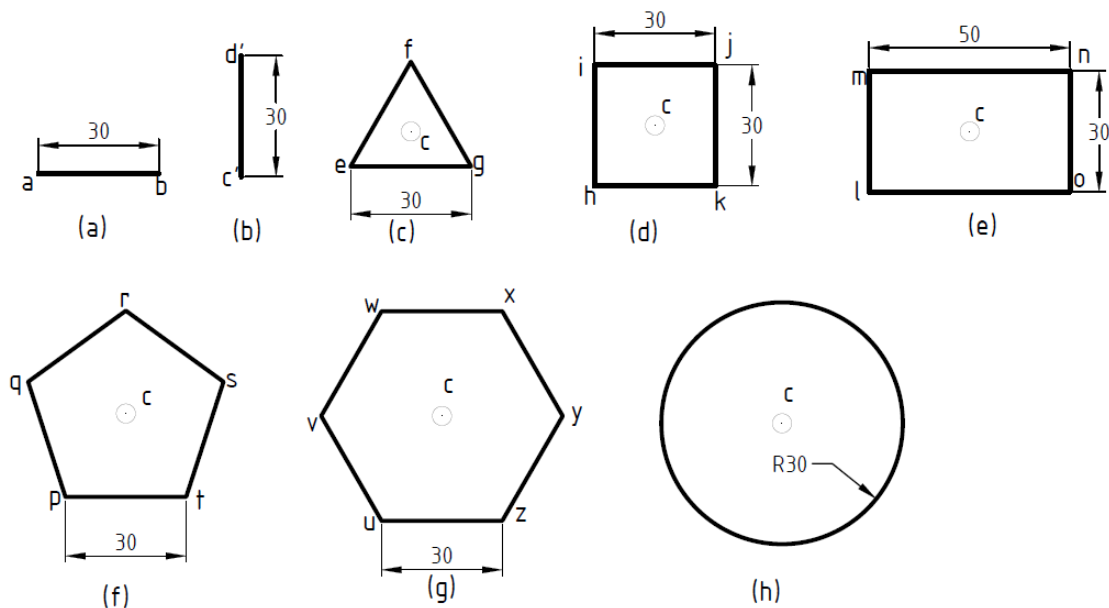

Figure 2 2D Geometric entities (All Dimensions are in mm)
3. Draw the basic 2D *geometric entities*, each of dimension or side or radius of 30mm (a vertical straight line, a horizontal straight line, an equilateral triangle, a square, a regular pentagon, a regular hexagon, and a circle. **With labels and dimensions.** (Students should learn drawing other regular polygonal shapes also) (Refer Figure 2) **70 min/ 35 marks/ level 1/ General**